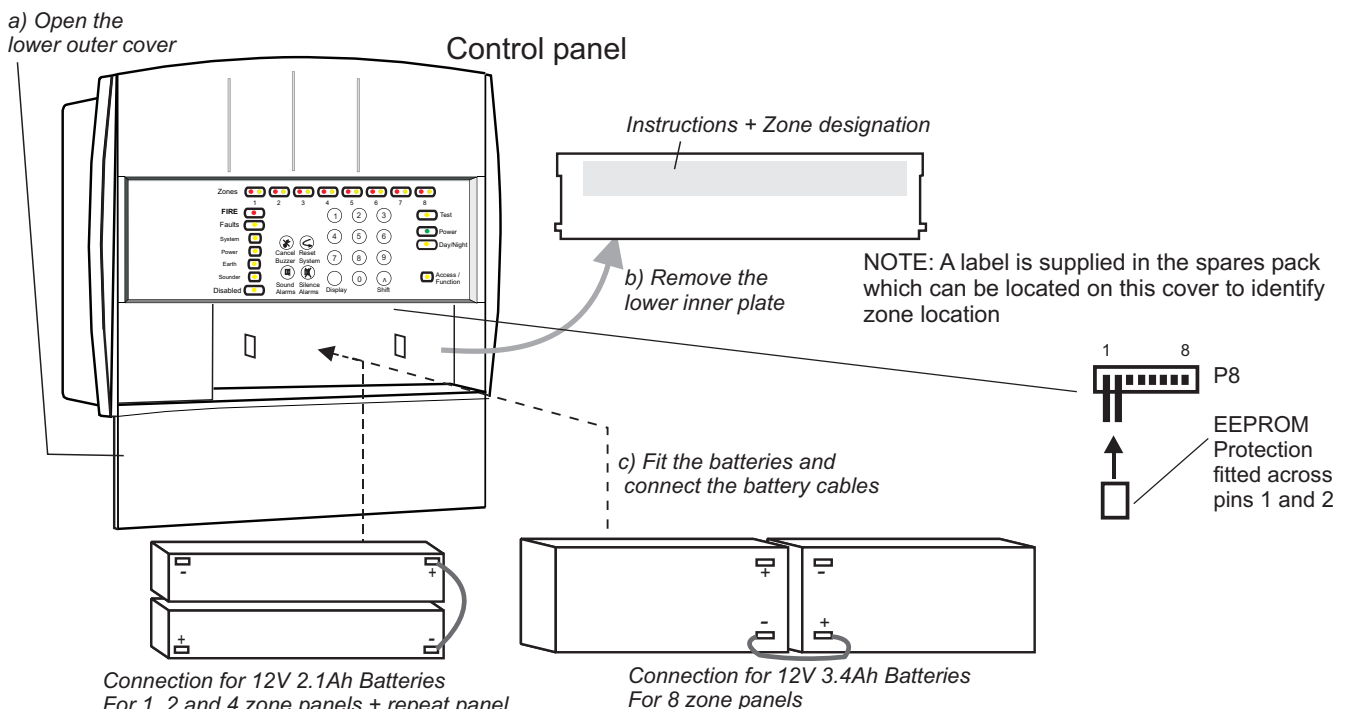

Figure 14 Battery installation and EEPROM protection link
- d) Now connect the battery supply, see *Figure 14*.
NOTE: Ensure that the EEPROM protection link is fitted to connector P8, see *Figure 14*.
- b) Fix the label over the zone designation part of the lower inner plate, see *Figure 14*.